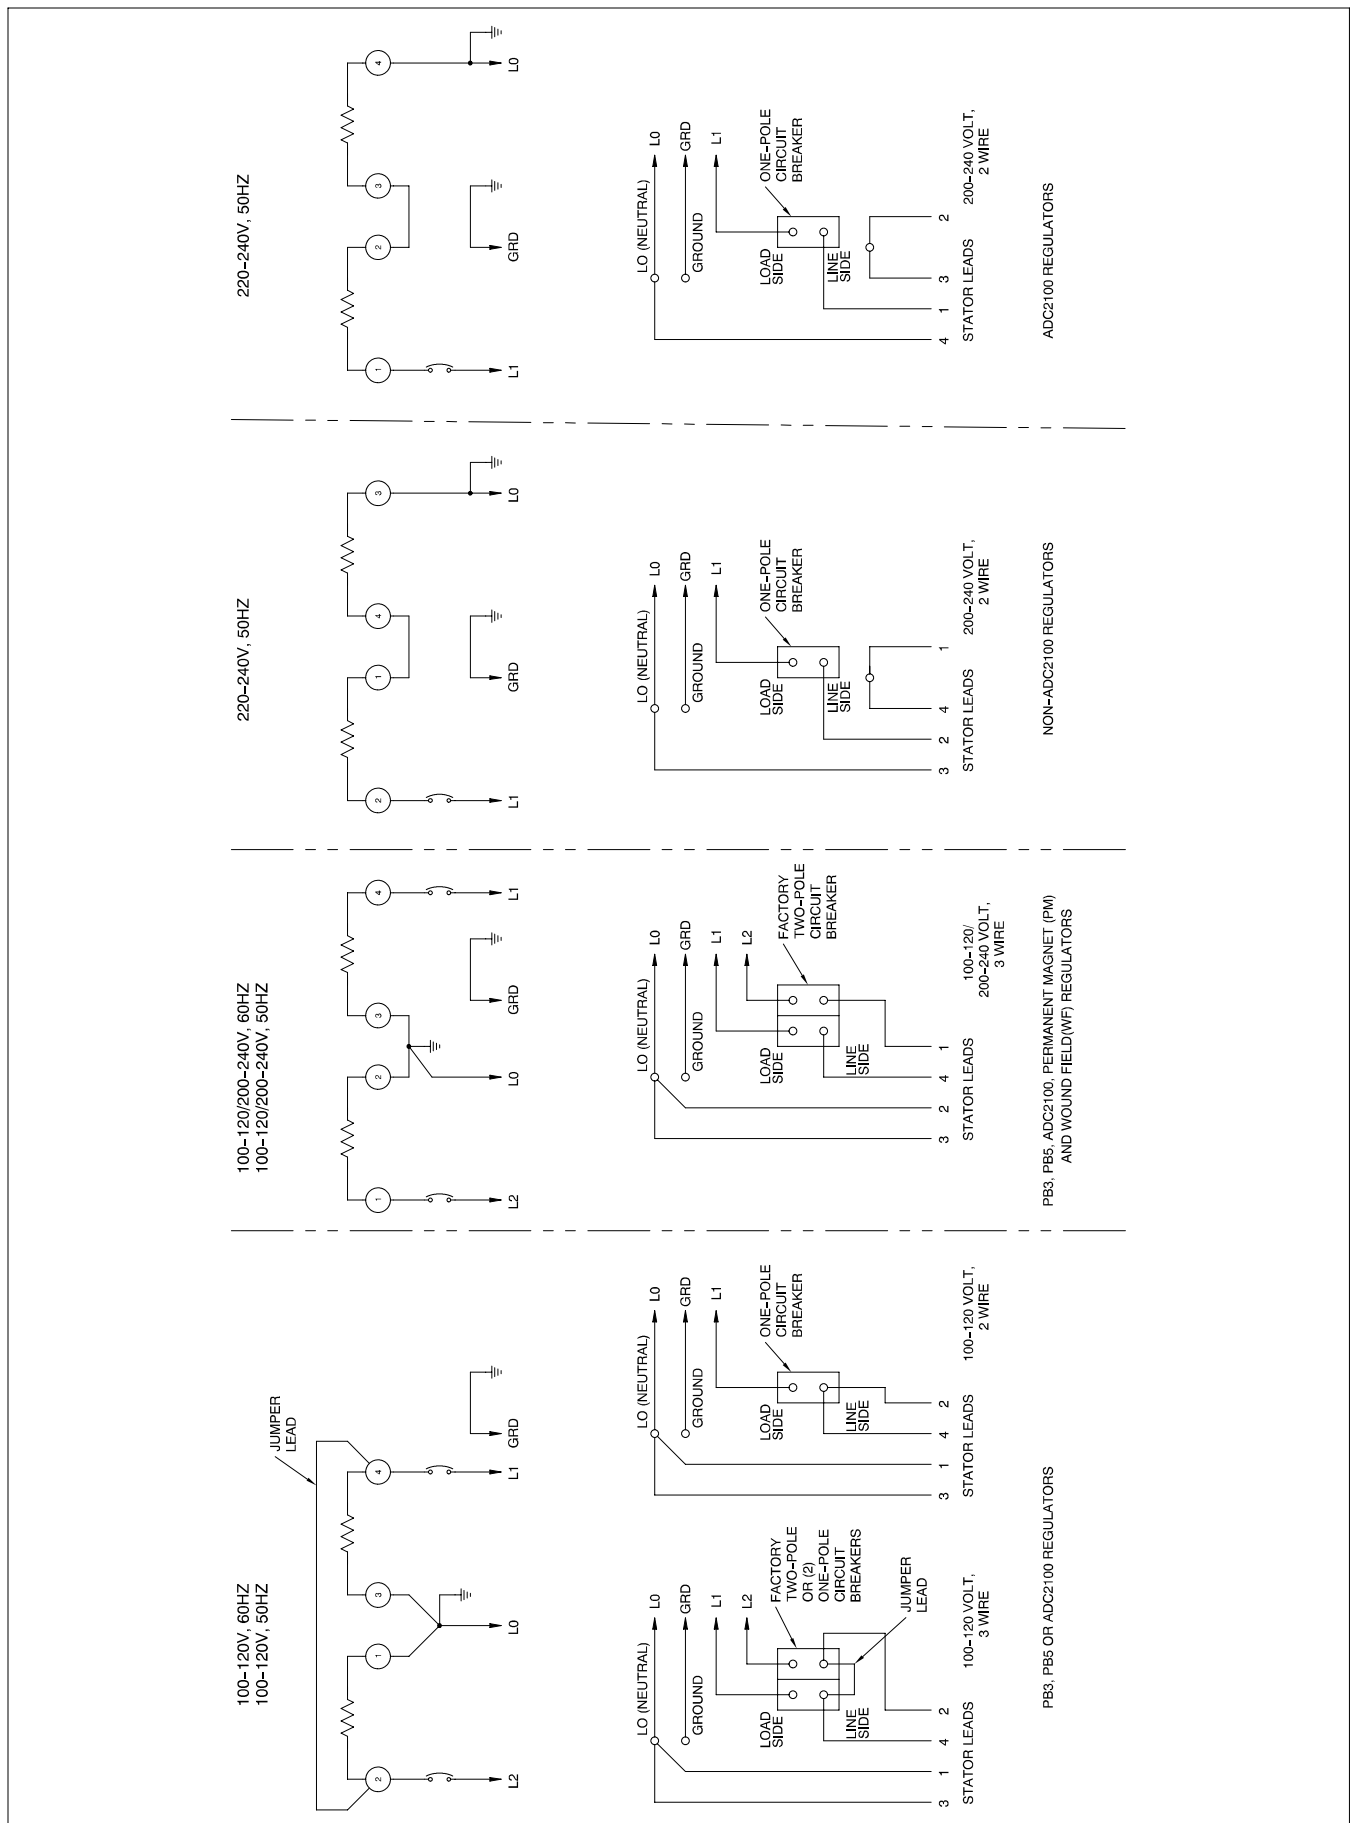
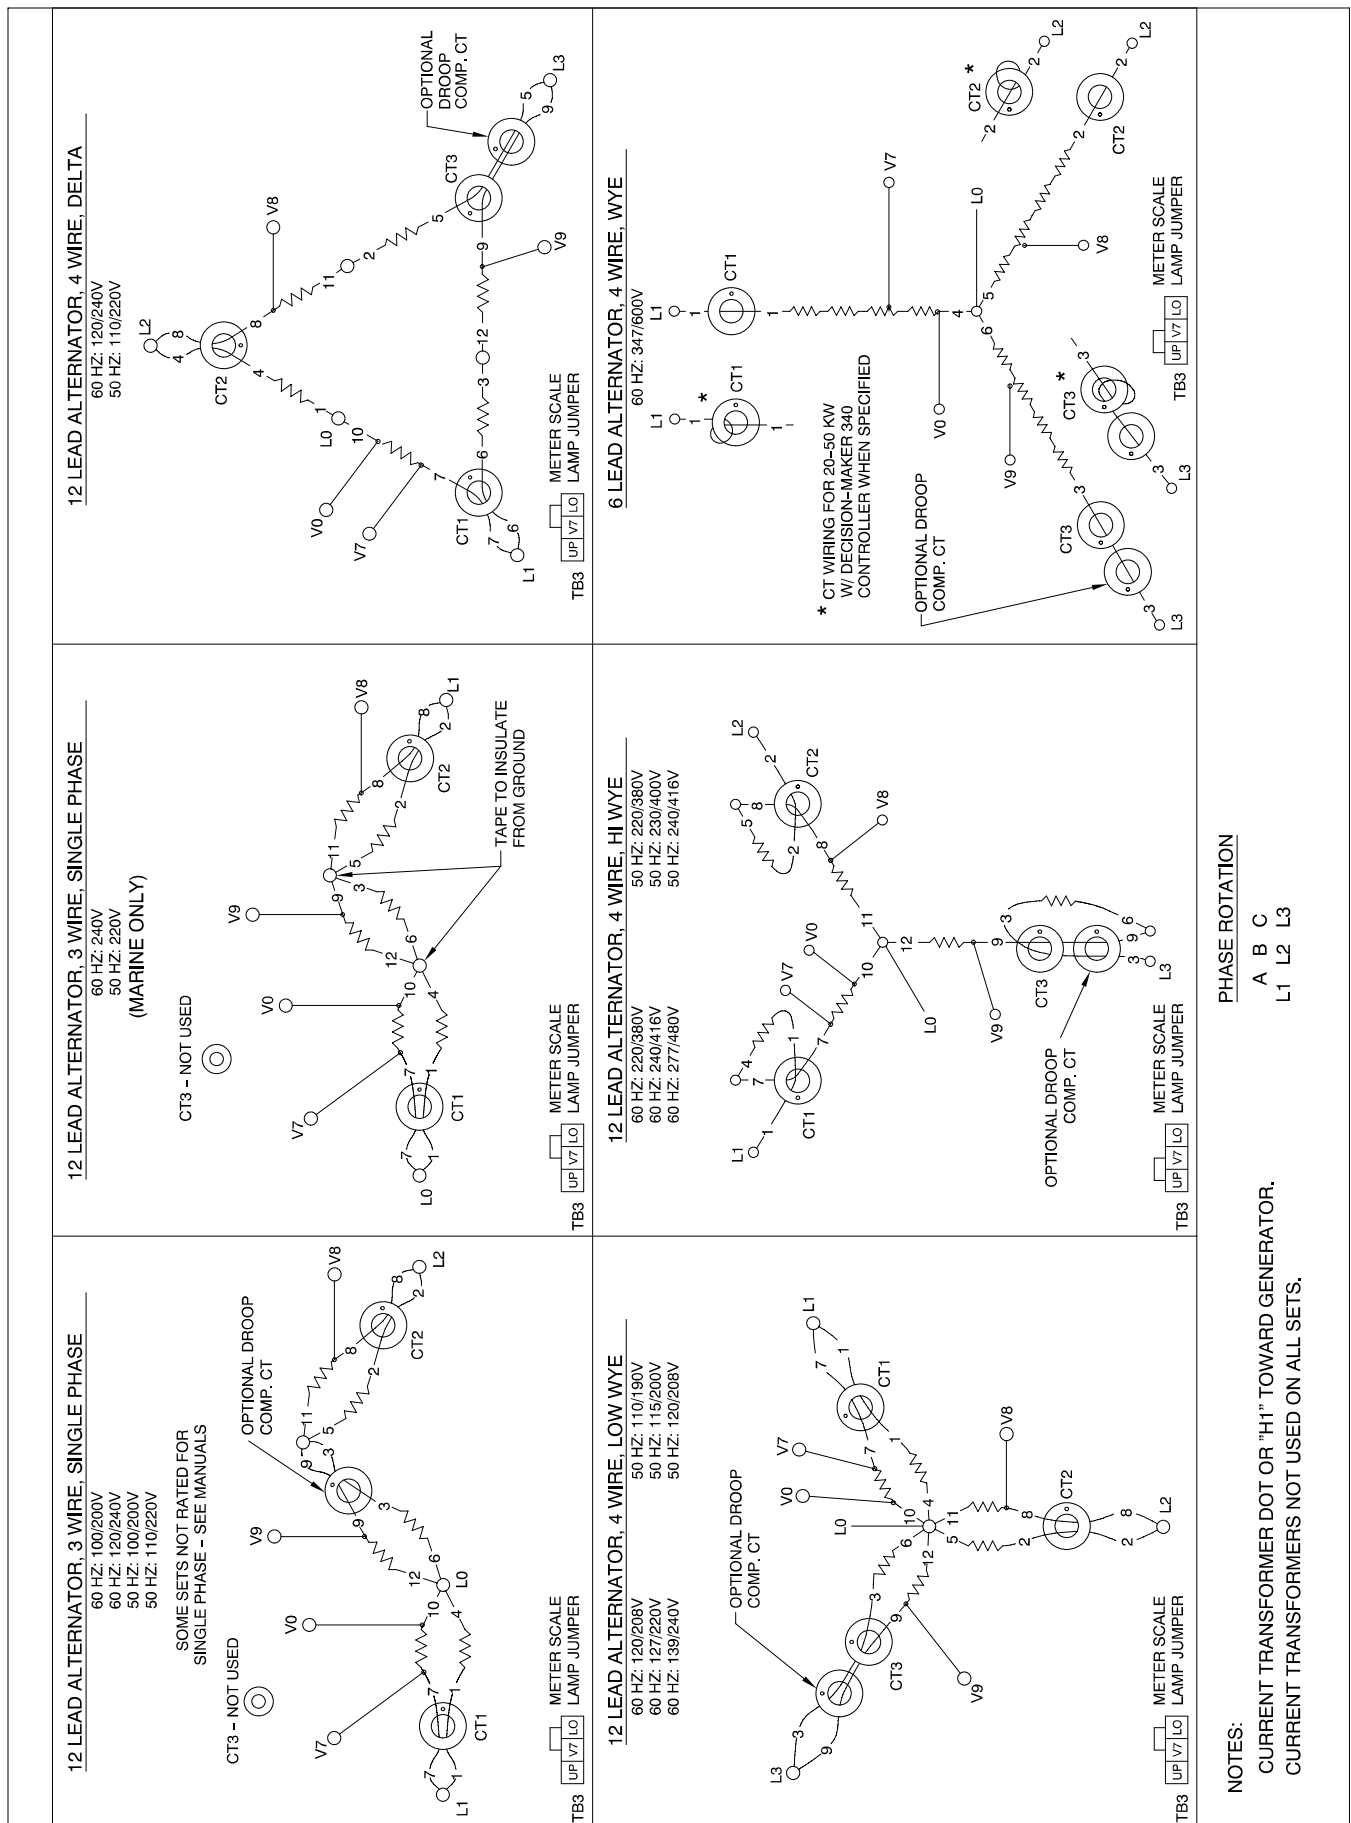
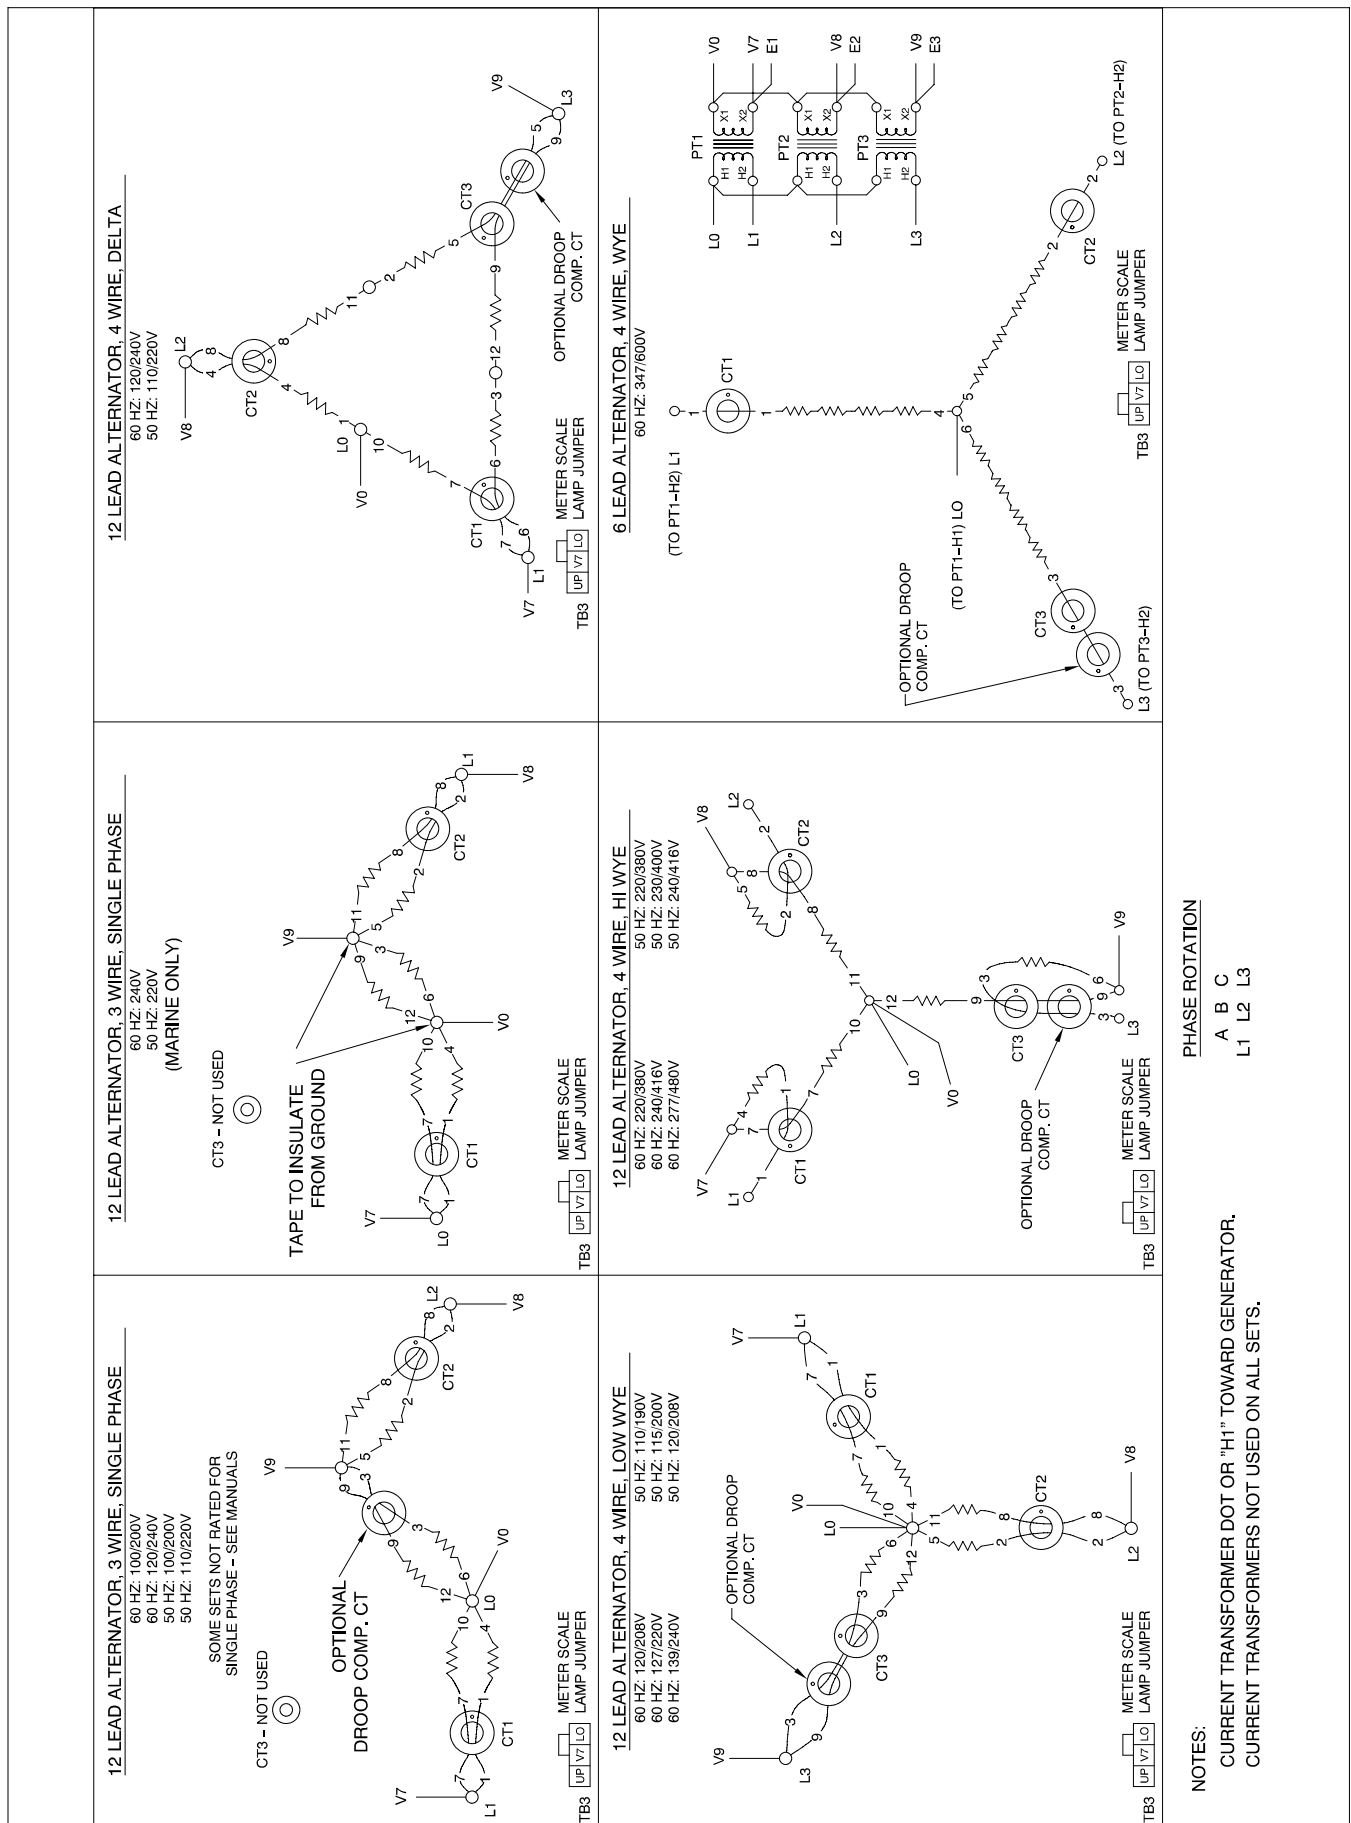
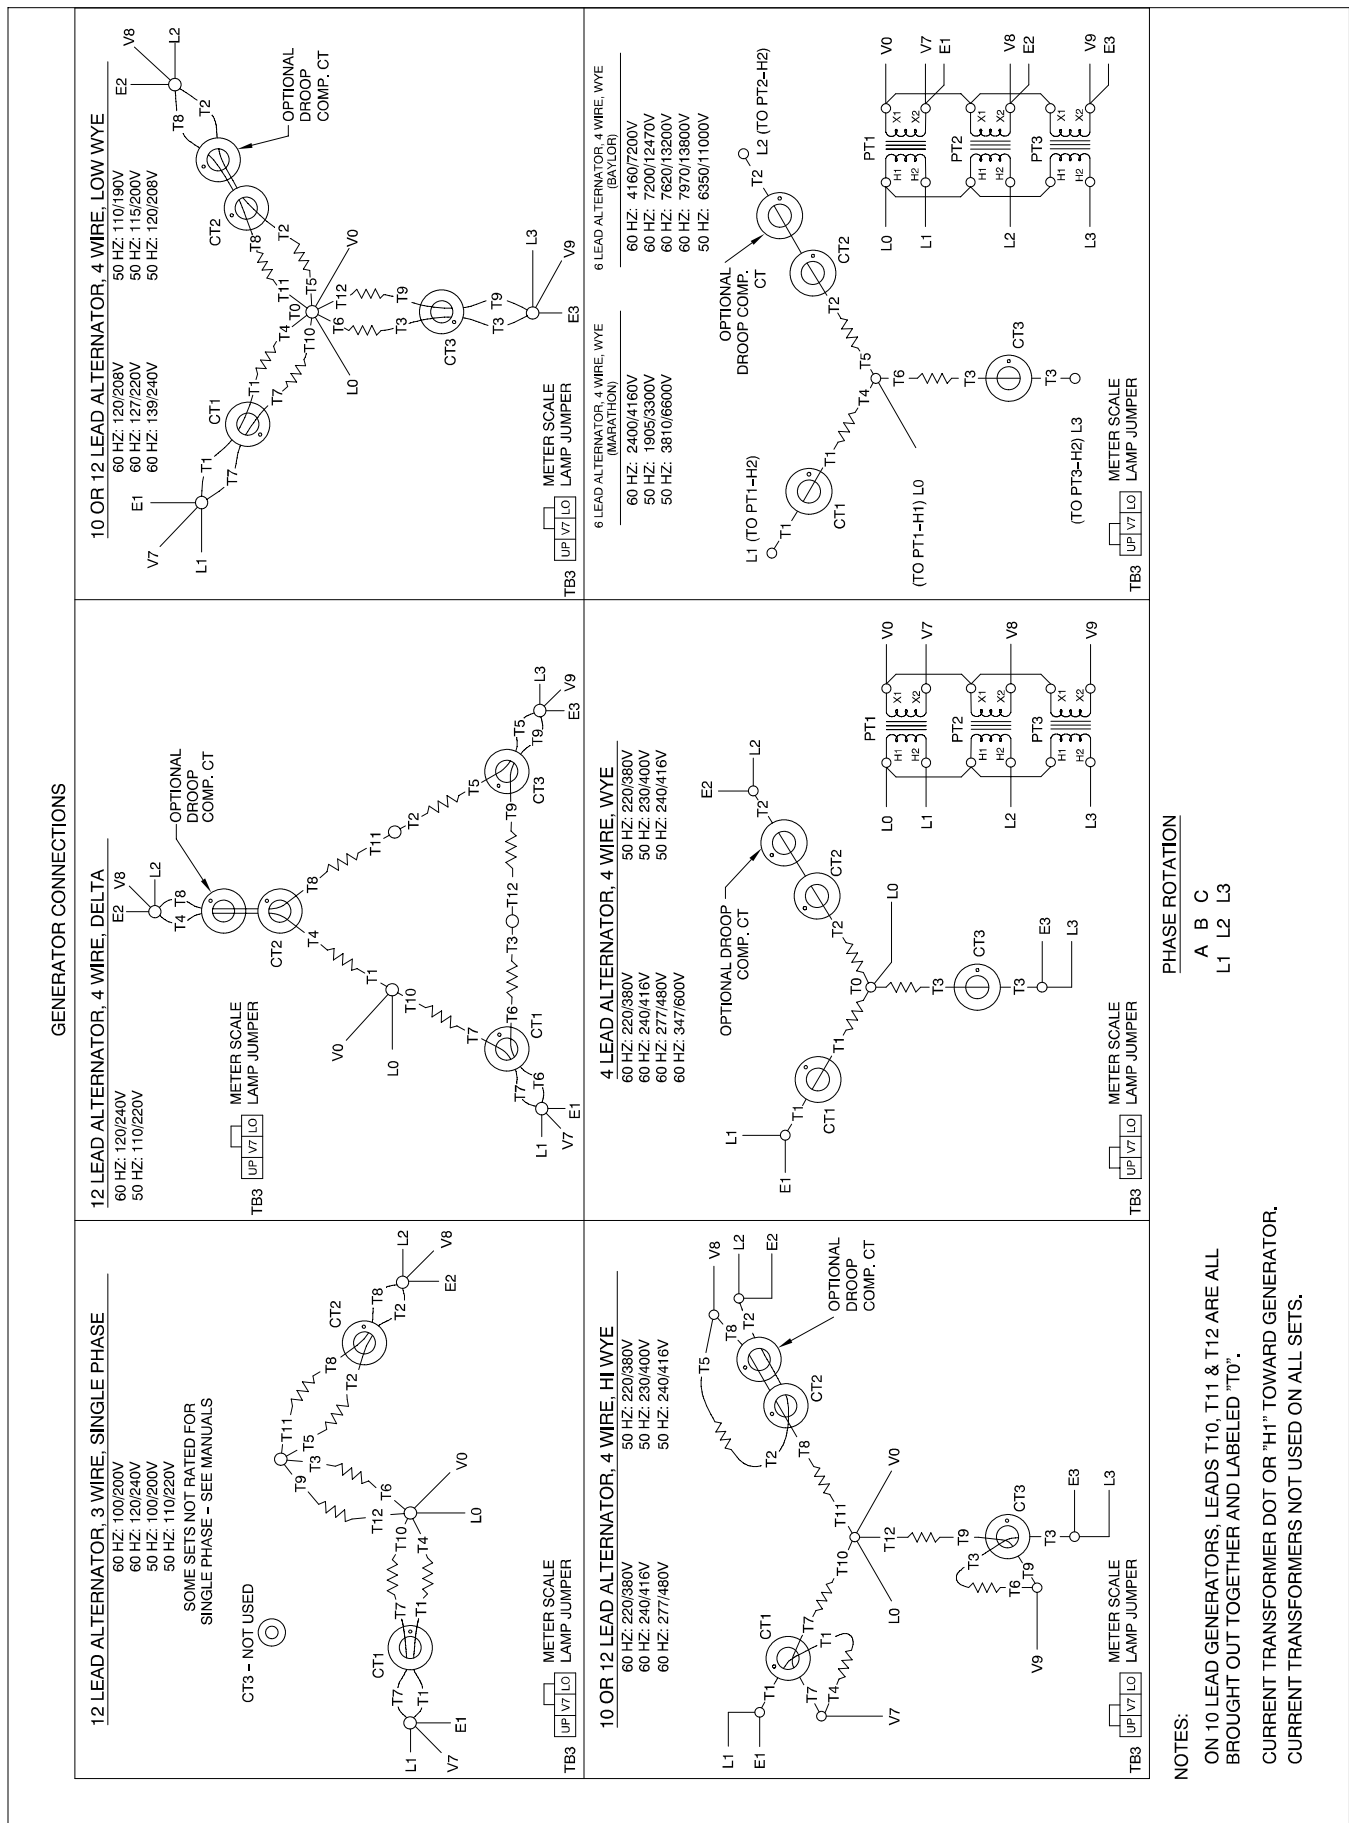

Figure 5-1 20-150 kW Permanent Magnet and Wound Field Single-Phase Alternators, ADV-5857-B
Figure 5-2 20-400 kW Permanent Magnet and 20-60 kW Wound Field Alternators, ADV-5875A-F
Figure 5-3 60 (with Oversize Alternator)-400 kW Wound Field Alternators, ADV-5875B-F
Figure 5-4 350–2800 kW Pilot-Excited, Permanent Magnet Alternator, ADV-5875C-F
3. Use Figure 5-1, Figure 5-2, Figure 5-3, or Figure 5-4 to determine the generator set voltage configuration. Note the original voltage and reconnect as needed. Route leads through current transformers (CTs) and connect them according to the diagram for the desired phase and voltage.